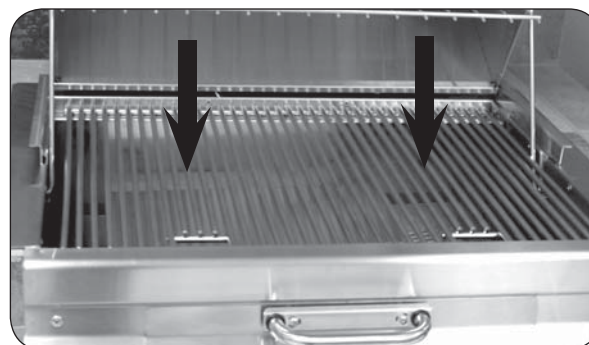

Fig. 4-2 Install cooking grids
5. Place both cooking grids with cut-outs toward the front as shown in Fig. 4-2.